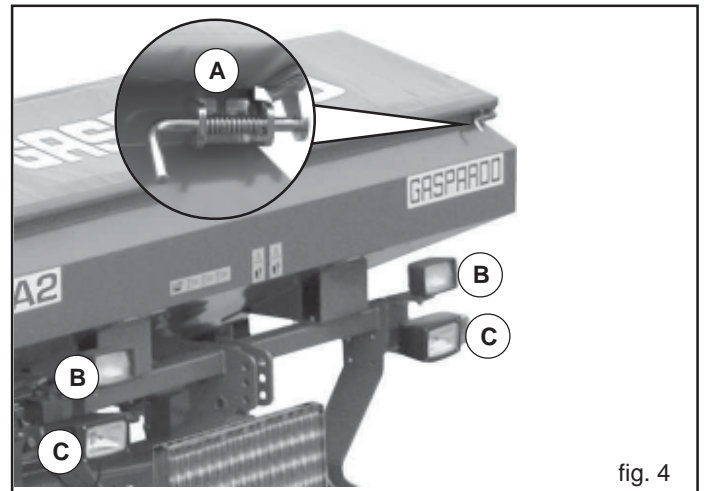

fig. 4
- 7) All road transport must only be carried out with the tanks and tanks empty and at max speed of 25 km/h. For the transport on the road it must be assured the cover with the appropriate one pulling of coupling (A, Fig. 4). Periodically, it is necessary to verify the degree of deterioration of pulling and to the occurrence to replace it.
- 10) When the dimensions of carried or partially-carried equipment conceal the tractor's signalling and lighting devices, these must also be installed on the equipment itself, in conformity with regulations of the highway code of the country involved. When in operation make sure that the lighting system is in perfect working order. The transport on the road must be done with light (B, Fig. 4) turned off. The orientation of the light (C, Fig. 4) must be done in conformity with regulations of the highway code of the country involved.